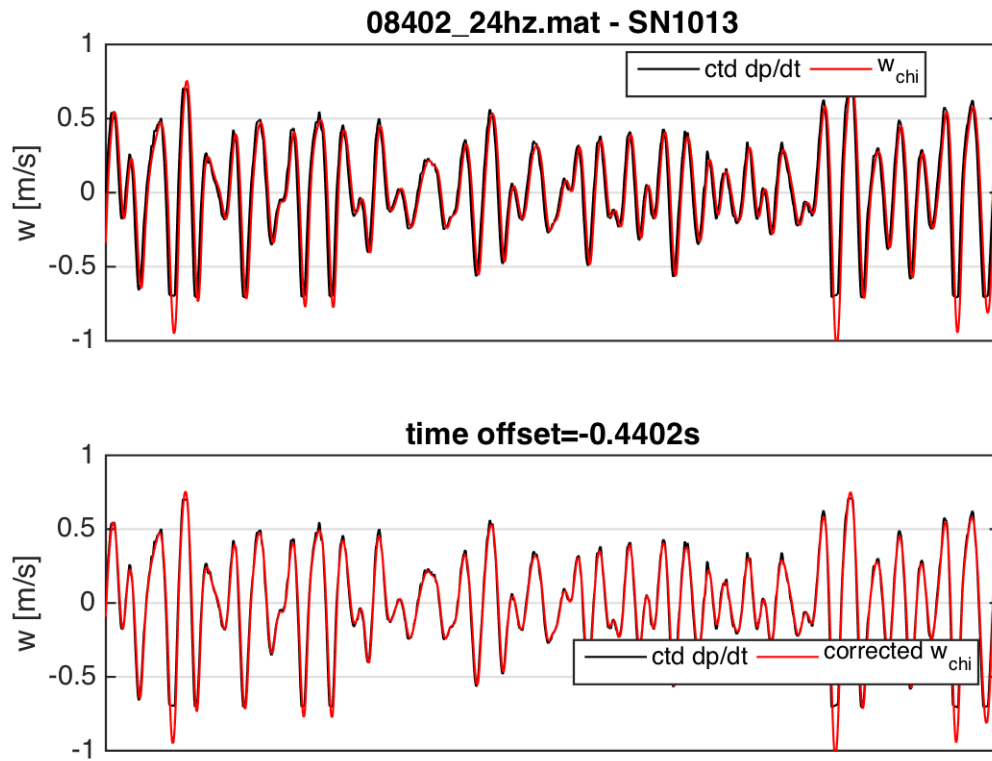
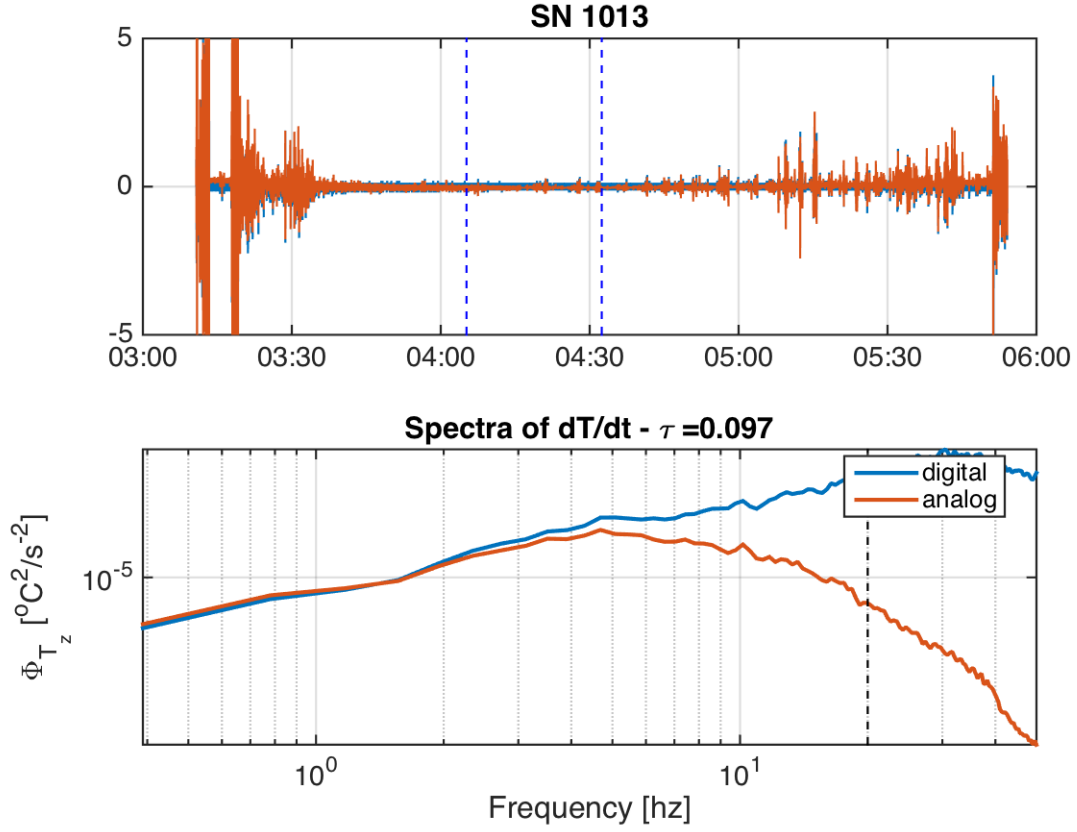
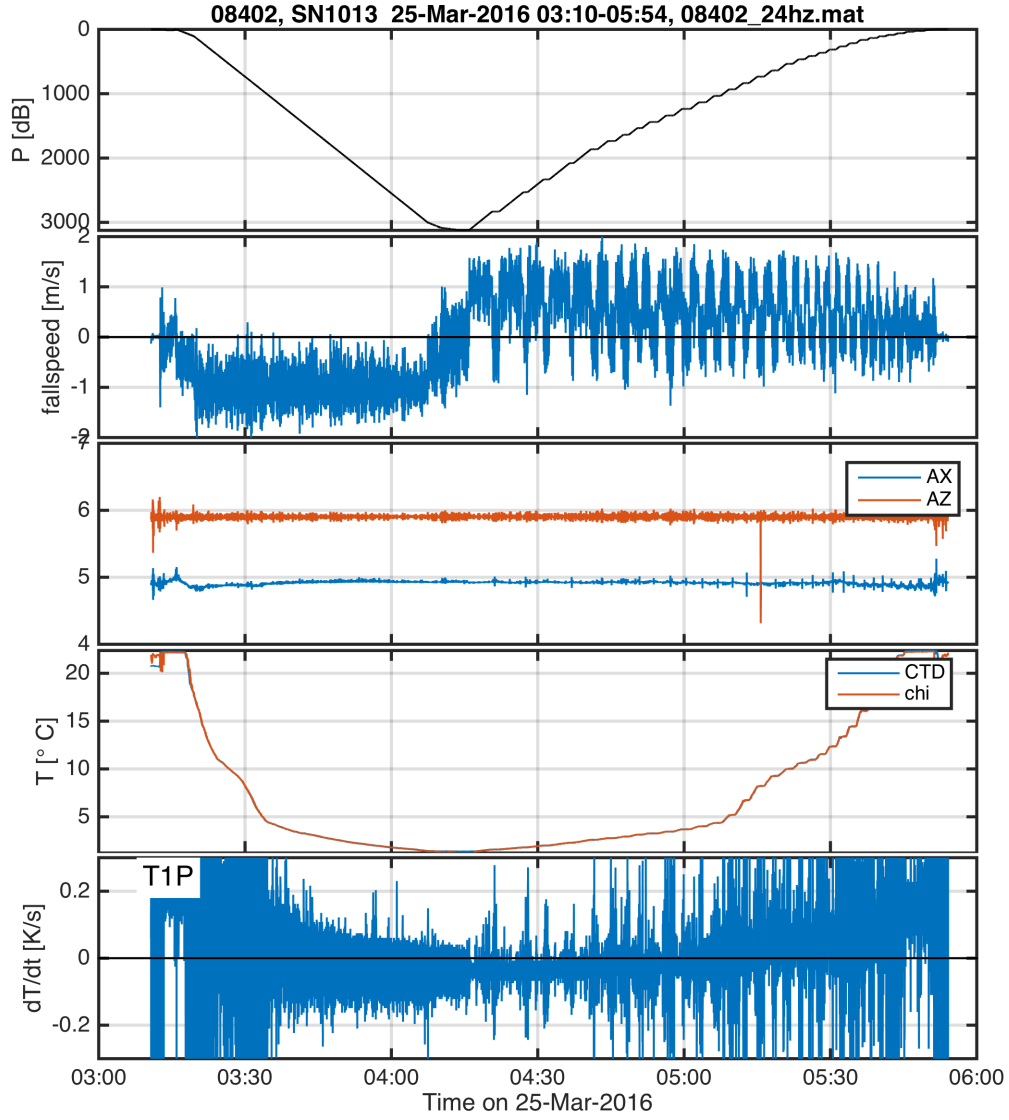
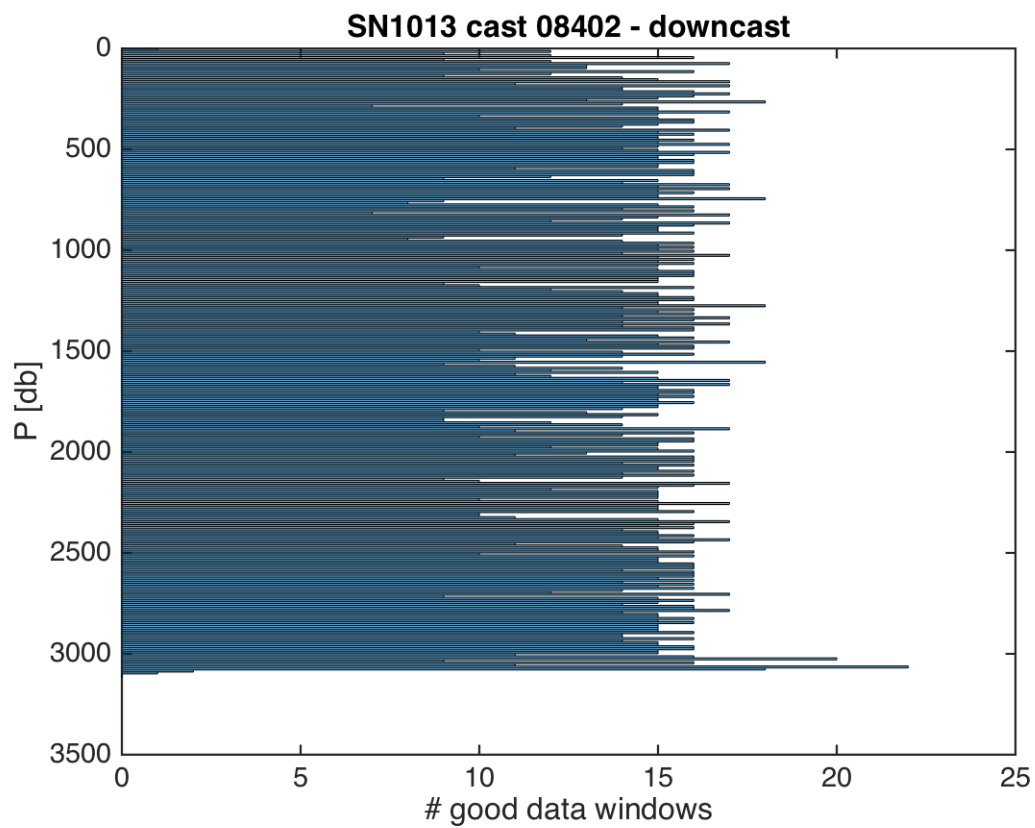

Figure 4: Zoom-in of previous plot allowing one to check if time-offset is correct. Bottom panel should match.
Figure 5:  $dT/dt$  spectra for analog (TP) and digital derivatives. Spectra levels should match; if not time-constant may be wrong.
Figure 6: Time series of aligned and calibrated  $\chi$ pod data for one cast.
Figure 7: Histogram of the number of good  $\chi$ pod data windows in each 10m depth bin.
6. Run `MakeCasts_CTDchipod_function.m` for a few casts. Check time-offset / alignment (figure 4); if not right, probably need to modify `az_correction` or `flip_ax_az` in `Chipod_Deploy_Info`. \* Note if  $\chi$ pod clock is off by a large amount (for example you forgot to set clock), processing will not work because it finds the files for each cast by the timestamp in their name. You will need to apply a time offset to the raw files (make copies first) and rename them in this case.
7. Run `MakeCasts_CTDchipod` for one good cast for each SN. Check time-offset / alignment (figure 4); if not right, probably need to modify `az_correction` or `flip_ax_az` in `Chipod_Deploy_Info` script. \* Note if  $\chi$ pod clock is off by a large amount (for example you forgot to set clock), processing will not work because it finds the files for each cast by the timestamp in their name. You will need to apply a time offset to the raw files (make copies first) and rename them in this case.
- `castname_Fig3_w_TimeOffset_Zoom` (Figure 4). Shows a zoomed-in period of the time-offset. The two timeseries should match in the lower panel.
- `castname_Fig4_w_dTdtSpectraCheck` (Figure 5). This compares the analog  $dT/dt$  (T1P) to the differentiated T signal. The spectral amplitudes should agree up to a certain frequency where the digital  $dT/dt$  becomes dominated by noise. If the spectra below the noise level don't match, the time-constant used in calibration might need to be modified.
- `castname_Fig5_T_P_dTdz_fspd` (Figure 6). Summary of the aligned and calibrated data.
- `castname_Fig6_downcast_chi_T1_avgPhist` (Figure 7).
- `castname_Fig7__upcast_chi_SN600_T1_avg_chi_KT_dTdz` (Figure 8). Summary of the final data ('avg' structure).